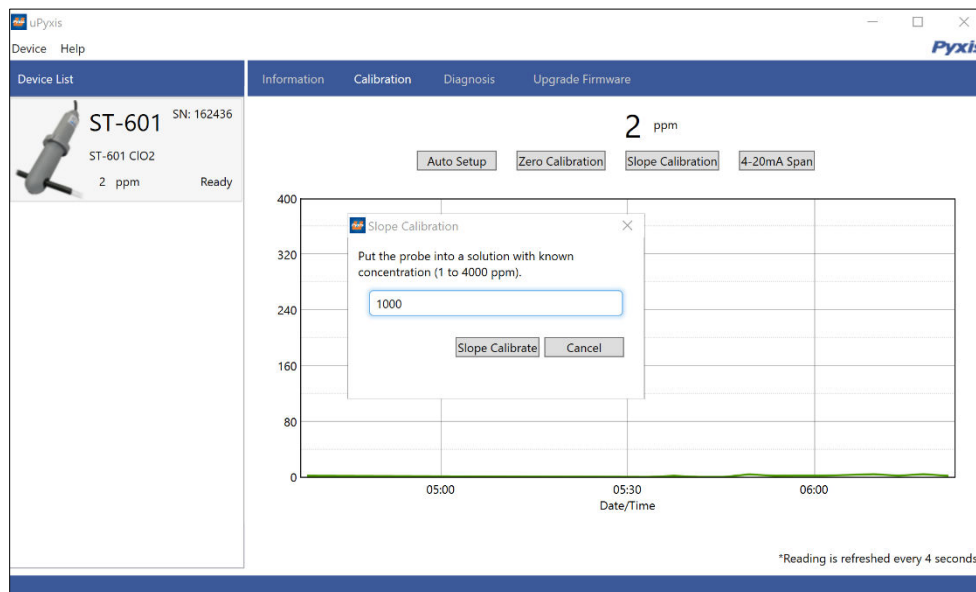

Figure 17
2. Enter the CLO₂ concentration in the dialog window as in (figure17). For the best result, the CLO₂ standard concentration should be in the range of 1,000ppm to 3,000ppm for the ST-601 probe.